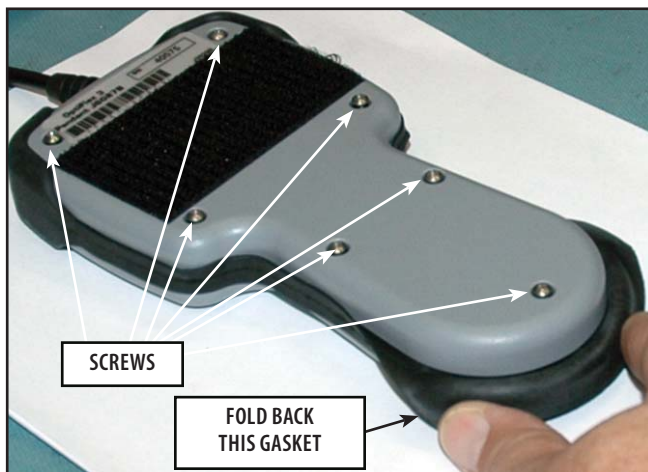

FIGURE 6.21
2. Turn the Pendant face down. Using a #1 Phillips screwdriver, loosen the 7 screws securing the back Cover of the Pendant. Refer to Figure 6.21.